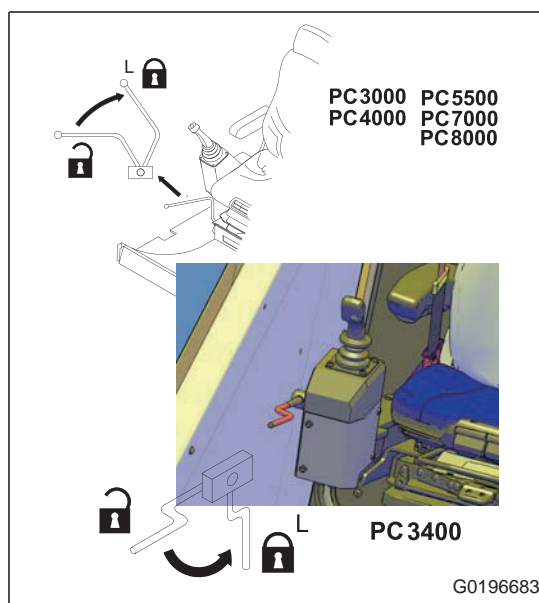

Fig. 2-20
- Before starting the motor, check that lock lever (Fig. 2-20) is in LOCK position (L).